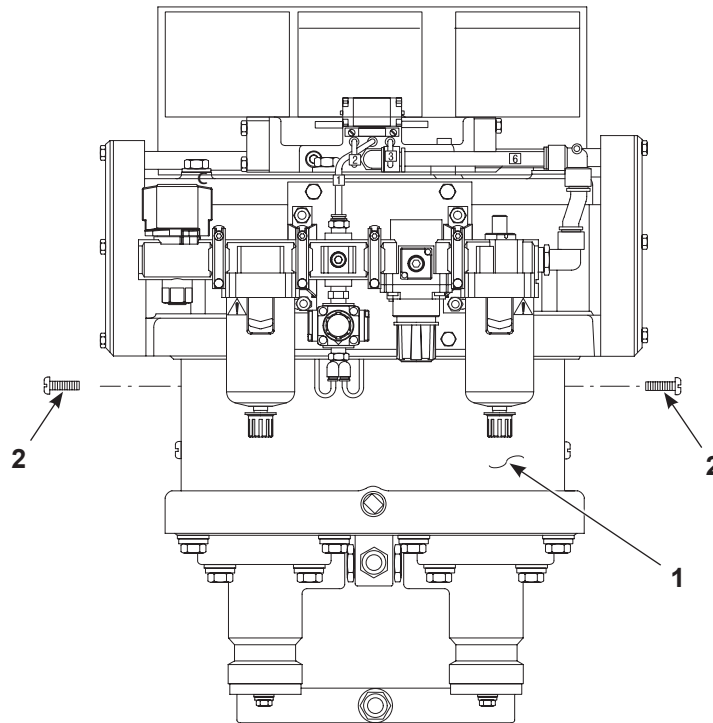

Figure 6-1 Cover Removal
1. See Figure 6-1. Loosen the screws (2) securing the pump cover halves (1) to the pump. Remove the pump cover halves from the pump.